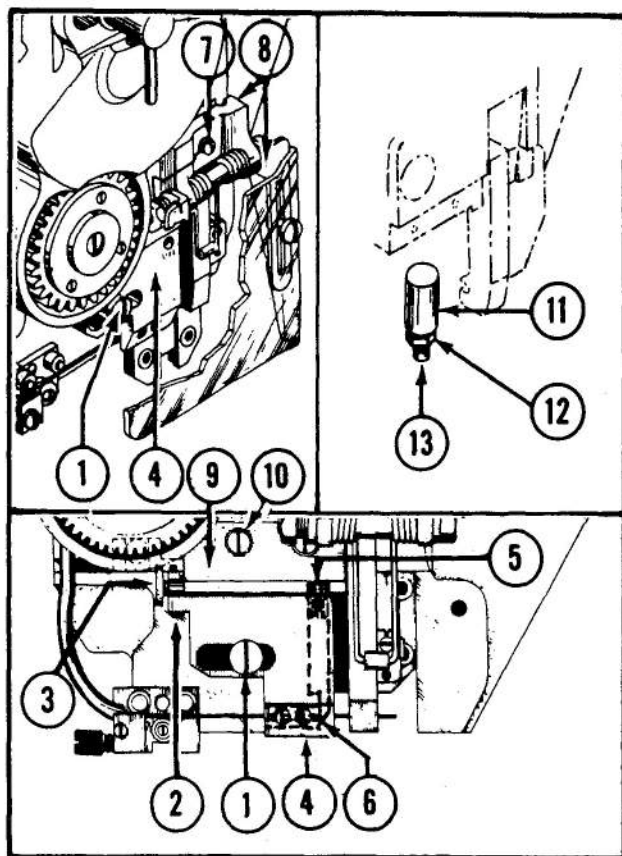

Figure 12—Staple Left Leg and Movable Cutter Adjustments
4. HOW TO ADJUST LENGTH OF STAPLE LEFT LEG (See Fig. 12)
5. HOW TO SET MOVABLE CUTTER (See Fig. 12)